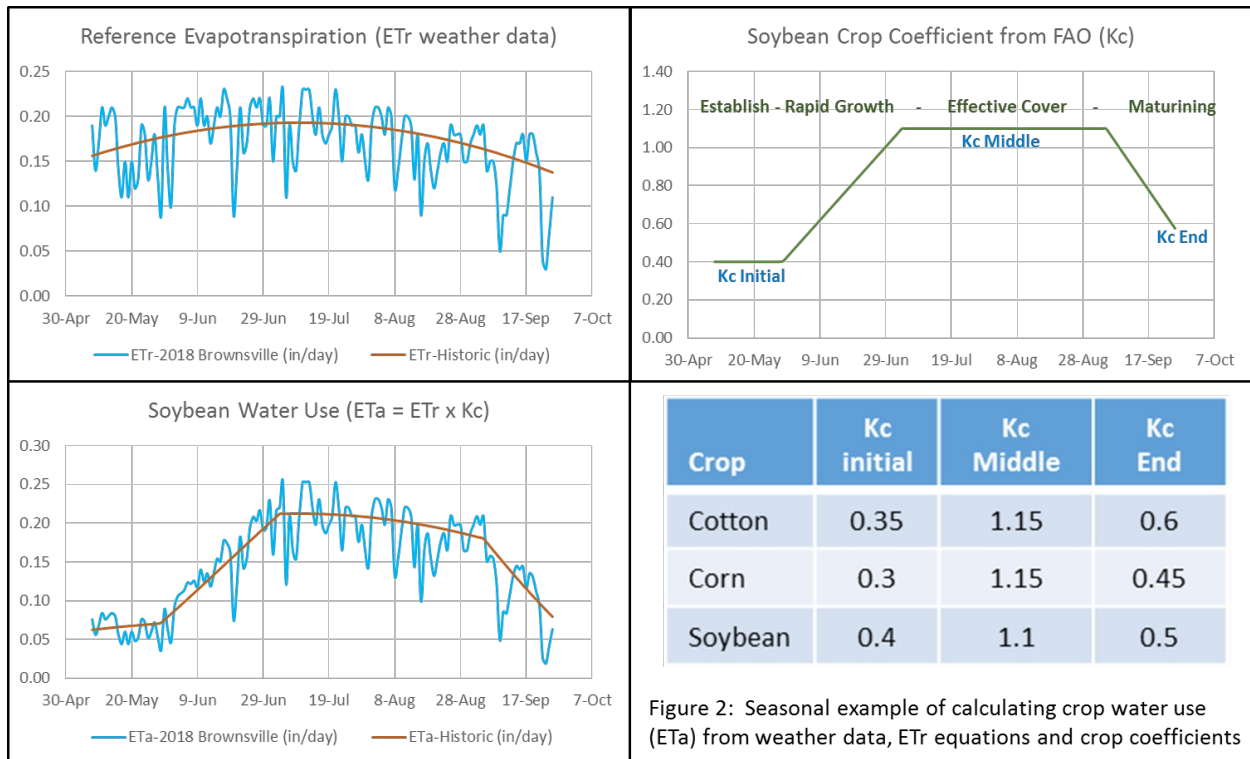

Figure 2: Seasonal example of calculating crop water use (ETa) from weather data, ETr equations and crop coefficients
or loses moisture faster on a sunny, hot, dry, and windy day than on a calm and cloudy or cool day. Research and field data shows that the actual rate of crop ET can be approximated by multiplying the rate of ET from a well-watered reference crop (like grass or alfalfa,  $ET_r$ ) by a crop-specific parameter called a crop coefficient ( $K_c$ ). The reference ET ( $ET_r$ ) can be calculated using various equations depending on the availability of weather data. Also, there are plenty of sources of crop coefficient ( $K_c$ ) values, including a collection published by the Food and Agriculture Organization of the United Nations (1) that adjusts for the crop type and stage of development to determine the actual crop ET ( $ET_a$ ) or crop water use, such that  $ET_a = ET_r \times K_c$ . Figure 2 shows  $ET_r$  that has been calculated from weather data over an entire growing season and how a crop coefficient is used to estimate crop water use ( $ET_a$ ).